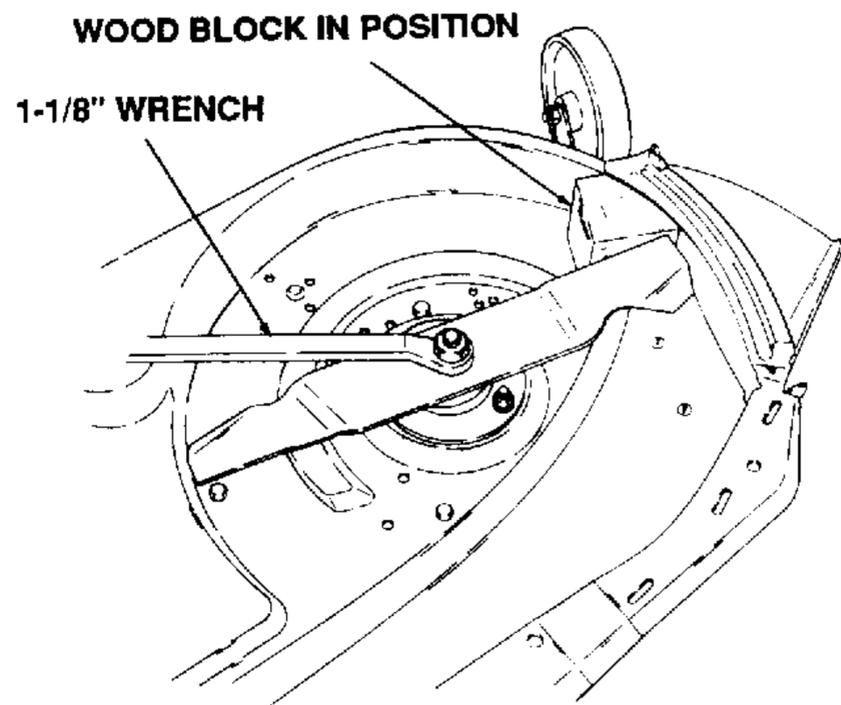

Figure 7-2. Loosen Hex Nut Securing Cutting Blade.
1. A block of wood may be placed between the housing and cutting edge of the blade to assist in removal of the hex nut securing the blade. Refer to Figure 7-2.